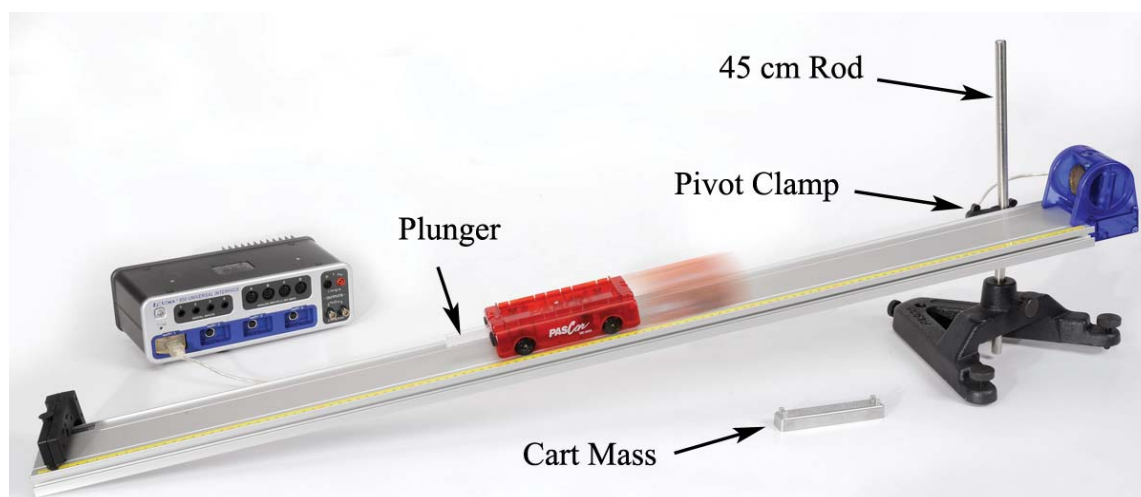

Figure 1: Measuring Acceleration of the Cart Down the Incline
1. Set up the track as shown in Figure 1 using the rod base and 45-cm rod. Note that the lower end of the track rests directly on the table, and that the normal track feet are NOT used in this experiment. The square nut on the Pivot Clamp slides into the T-Slot on the track, and allows the track to be secured at various angles.